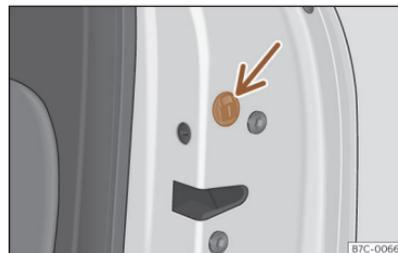

Fig. 87 Locking the door manually.
- If necessary, remove the rubber seal  from the front of the door >>> **Fig. 87**.